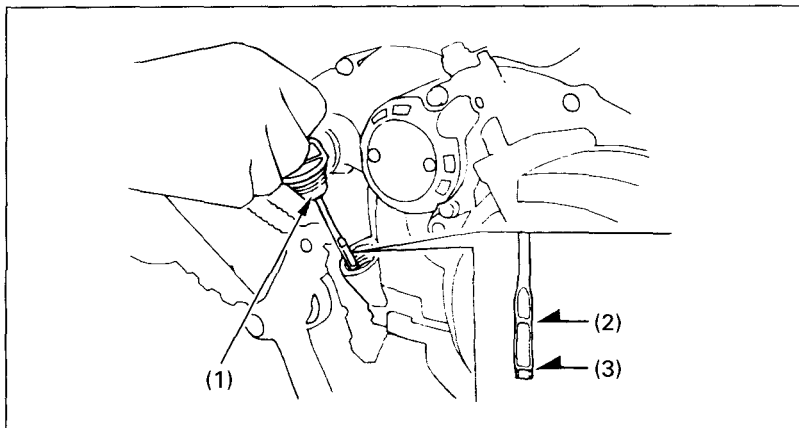

Fig. 4-11 (1) Oil filler cap/dipstick
4. After a few minutes, remove the oil filler cap/dipstick (1) (Fig. 4-11) from the right crankcase cover and wipe it clean.
5. Insert the dipstick without screwing it in, then remove the dipstick and check the oil level. The oil level should be between the upper level mark (2) and the lower level mark (3) on the dipstick.
1. With the FOURTRAX on level ground, remove the oil filler cap/dipstick from the right crankcase cover (Fig. 4-11).